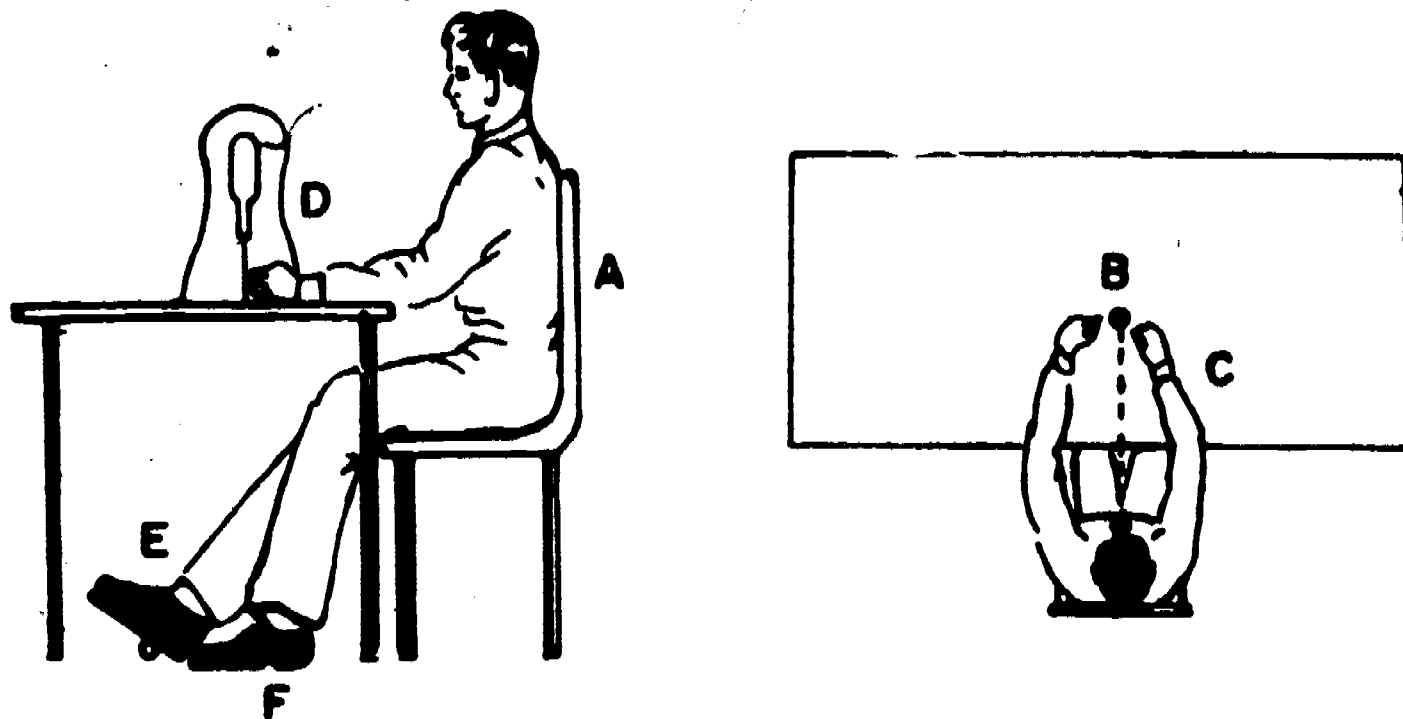

Figure 5. Correct Position and Posture.
1. Operator should sit upright and well back in his chair. (See Figure 5, part A.)
2. Operator's nose should be in line with the needle bar. (figure 5, part B) This will enable him to see on each side of the presser foot and guide the material with both hands. (Figure 5, part C)
3. When in an upright position, operator should extend hands forward to the needle bar. (Figure 5, parts C and D)
4. His right foot should be placed on the foot treadle with his heel on the lower edge for braking purposes. (Figure 5, part E)
5. His left foot should be placed on the floor beside the treadle. (Figure 5, part F)